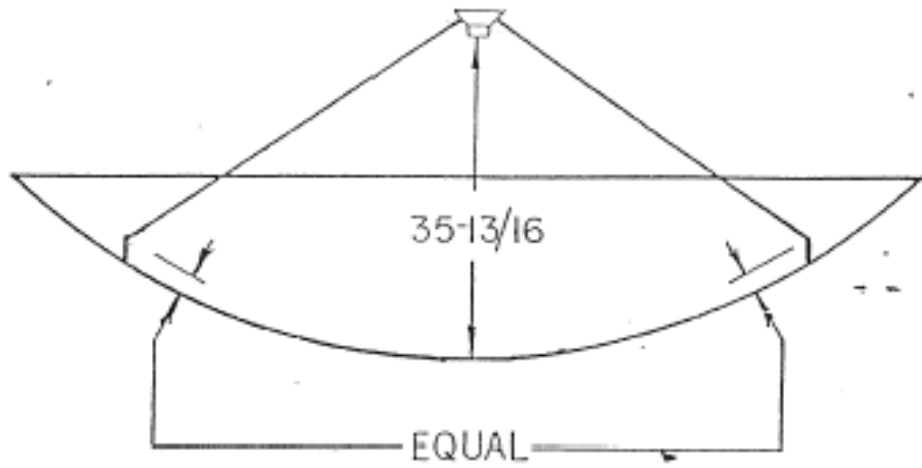

FIGURE 4.3-4
1. **Focal Length** - As shown in figure 4.3-1 through 4.3-3, attach the feed horn assembly to the three feed rods with the same 3/8" hardware as above. (For ku-band single pole only, insert the feed cover tab (item #7) between the feed horn and the 3/8" flat washer). Tighten the four bolts securely at this time. Check the focal length by measuring from the face of the feed horn to the reflector cover plate as shown in figure 4.3-4. If the focal length is incorrect, adjust the feed clevises in or out at the reflector surface as needed. Be sure that the clevises are adjusted equally. When the focal length is correct, tighten all feed support and clevis hardware securely.